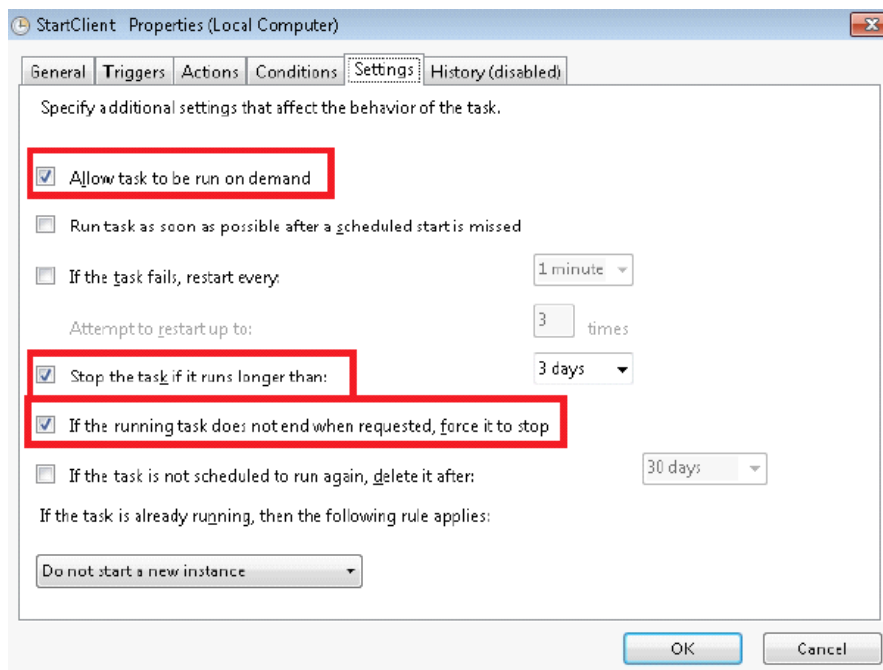

Fig. C.46: Settings tab
STEP 15 – Please select *Settings* tab and verify the options according to Fig. C.46.